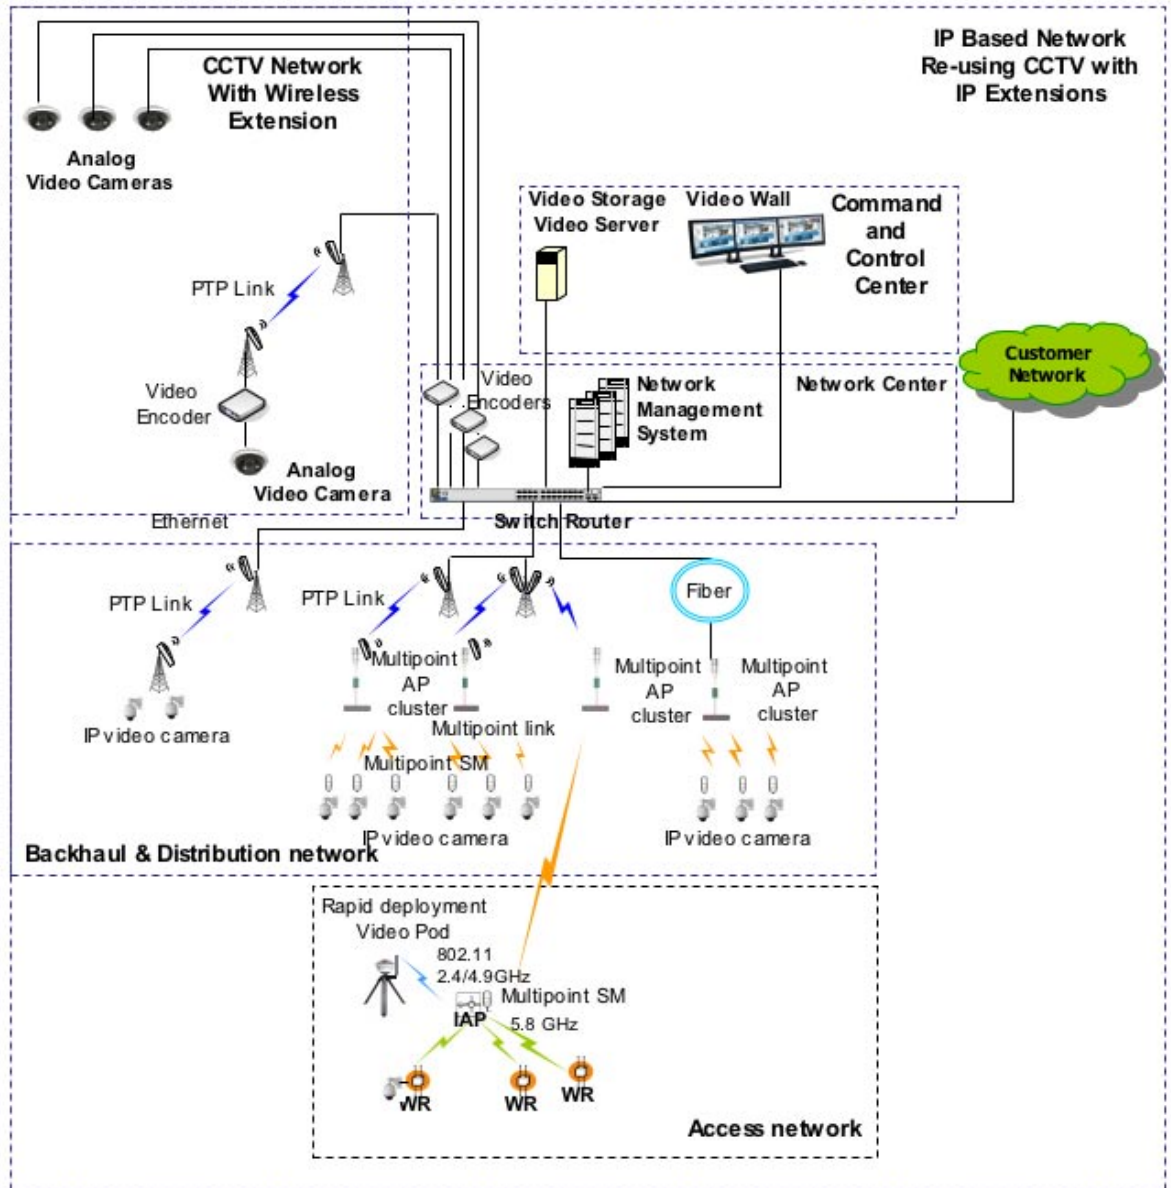

Figure 5. Fiber Based Infrastructure for Point-to-Multipoint & Mesh Extension
**Combining Analog and IP Solutions.** In some applications, network operators may want to add video coverage to a new location – such as another city or region - that is distant from the Command and Control Center. In these cases, the operator can easily use an existing fiber network to establish connectivity to these locations. In this example, fiber takes the place of the PTP backhaul and connects directly to the PMP Access Points supporting the video cameras. As shown in Figure 5, the PMP infrastructure can be used to provide connectivity for individual cameras or to provide bandwidth to a Mesh network wireless router.